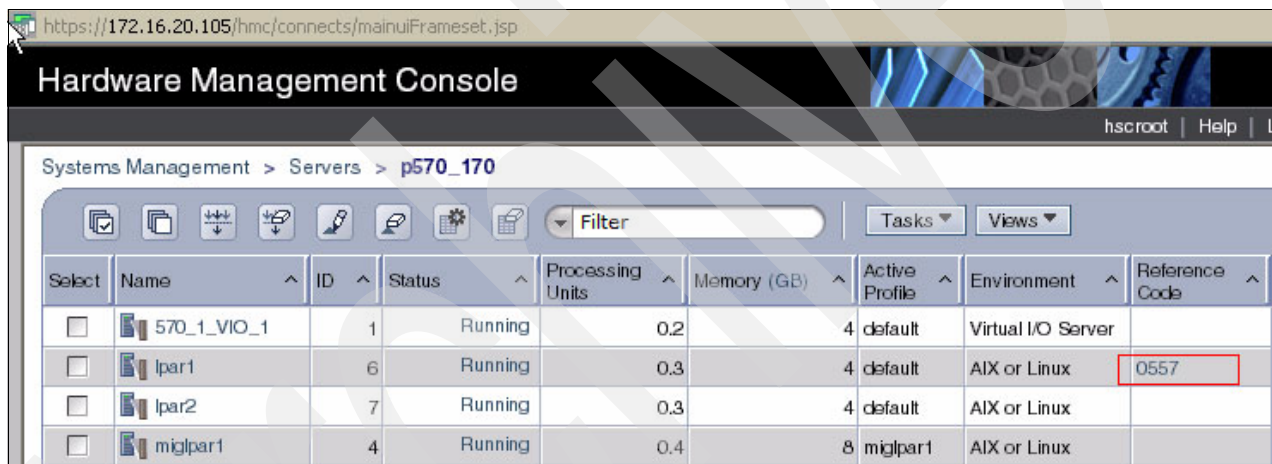

Figure A-1 Selecting a managed server
- Log on to the HMC. Select **Systems Management** → **Servers**. Select the server. Select the required managed server. See Figure A-1.